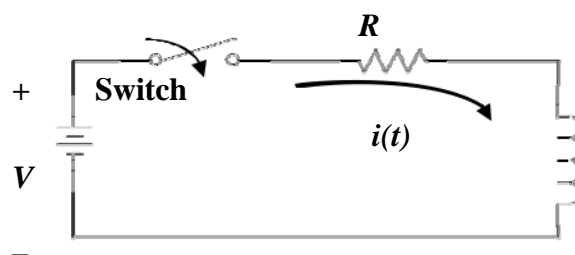

Fig. 7. Simple
3.3.3. In Fig. 7, since current cannot start instantaneously in an inductor, the inductor voltage $v_L = V$ when the switch is closed ($i = 0$, thus $iR = 0$). As current increases, v_L falls. At steady state, $v_L = 0$, and current equals